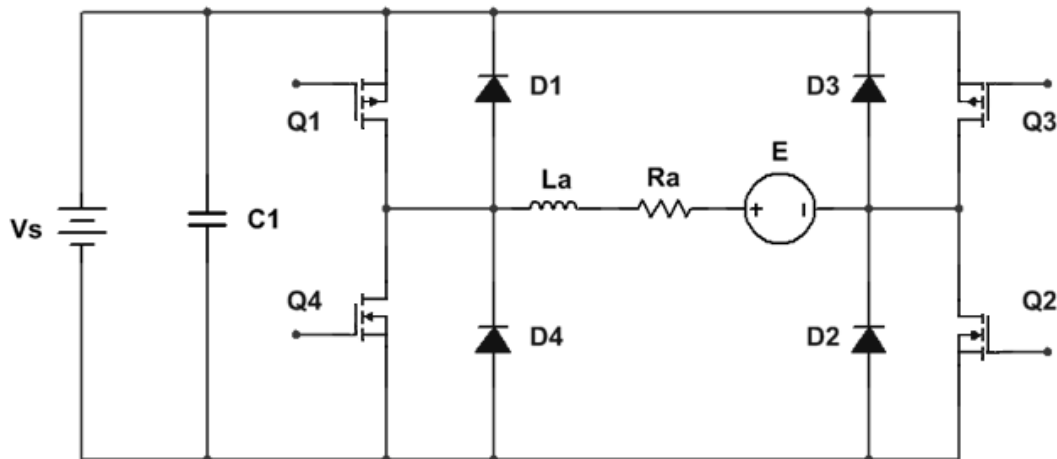

Figure Q1
- a) Figure Q1 shows a H-bridge circuit to be used as a four quadrant chopper drive controlling a DC motor fed from a DC supply. The motor is represented as a simple model equivalent circuit with field separately supplied and constant. Critically analyse the operation of the circuit in QUADRANTS 1 and 2 (forward motoring and forward braking) treating each switching device as ideal.